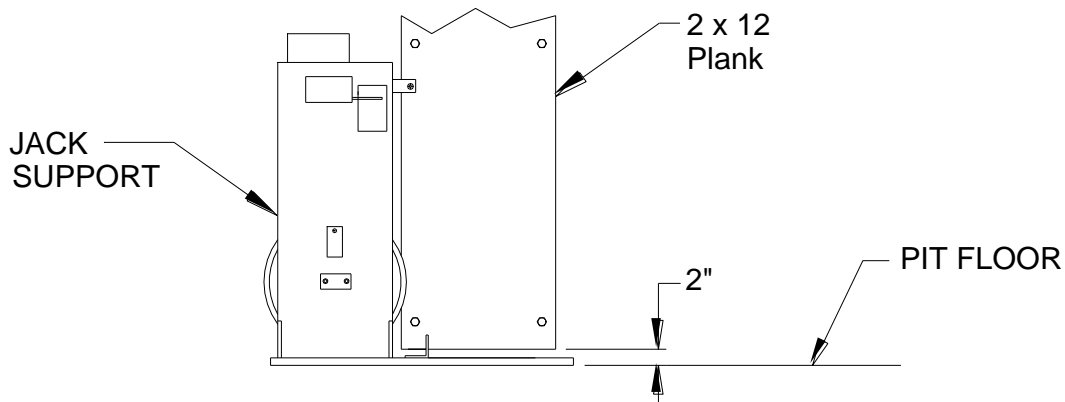

Figure 1
There must be a minimum space of 2 inches between the bottom of the plank and the pit floor for proper installation of the Jack Support Assembly (see Figure 1).
2. INSERT A SPLICE BOLT INTO EACH SPLICE BLOCK AS SHOWN. (FIG 1)
3. BOTTOM RAIL CONTAINS FOUR (4) DOWEL PINS SHIPPED IN THE SPLICE BLOCKS. PLACE TOP RAIL, OR NEXT LABELED SECTION OF RAIL OVER AND DOWN ONTO THE DOWEL PINS, GUIDING THE BOLTS THRU THEIR RESPECTIVE HOLES.